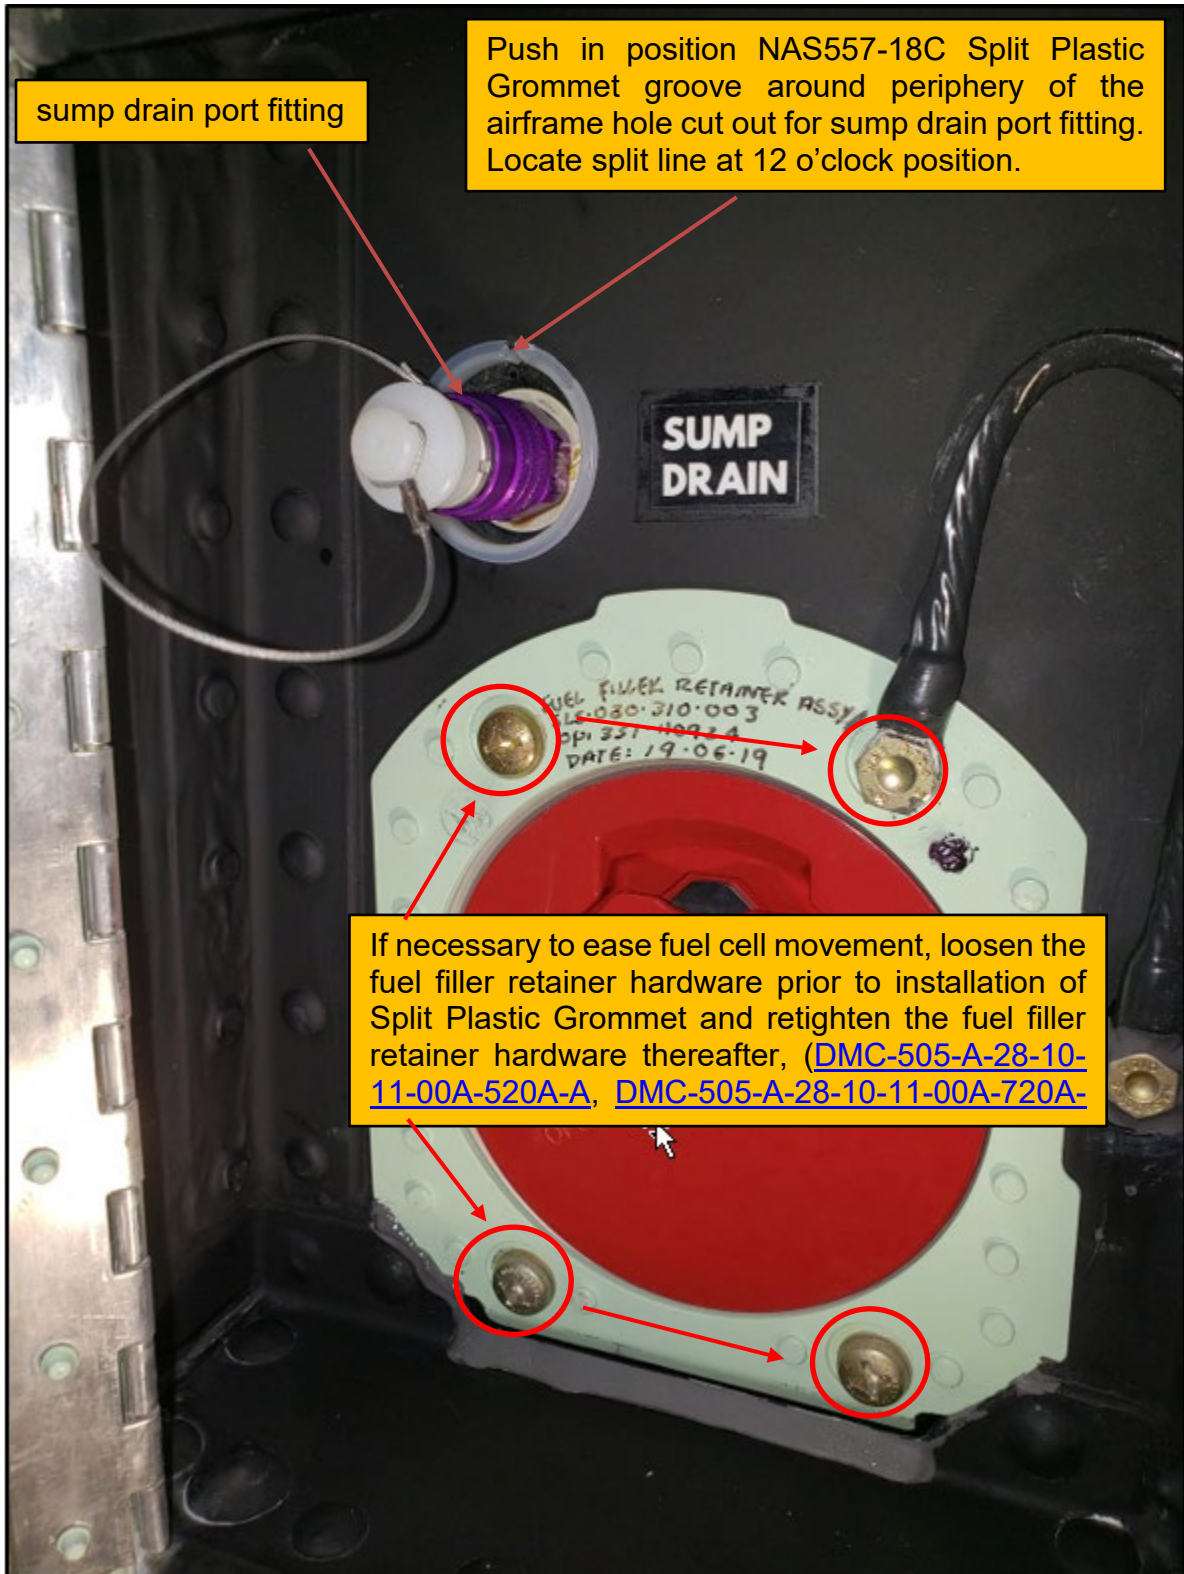

FIGURE 1 – Fuel Filler Compartment (Zone 172)
3. Locate sump drain port fitting (Figure 1).
If necessary to ease fuel cell movement, loosen the fuel filler retainer hardware prior to installation of Split Plastic Grommet and retighten the fuel filler retainer hardware thereafter, (DMC-505-A-28-10-11-00A-520A-A, DMC-505-A-28-10-11-00A-720A-A) (Figure 1).
- a. Push in position NAS557-18C Split Plastic Grommet groove around periphery of the airframe hole cut out for sump drain port fitting (Figure 1).
- (1) Locate split line at 12 o'clock position.